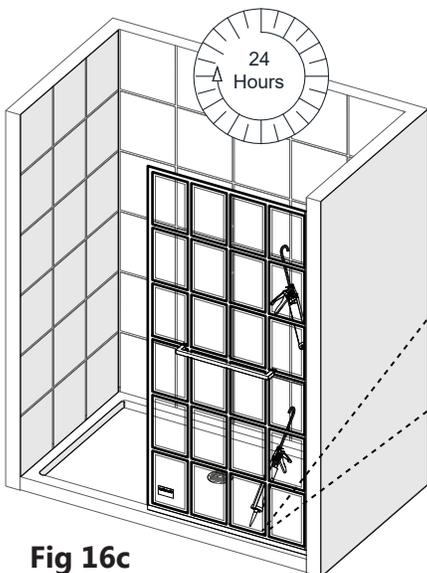

Fig 16c
- After the installation of the towel bar, apply a 100% mildew-resistant silicone along the **Vertical and Bottom U-Channel(s) (#09/29)** where it meets the wall and threshold from inside of the shower, as shown in **Fig. 16c**. Apply silicone along the outside perimeter, if desired.